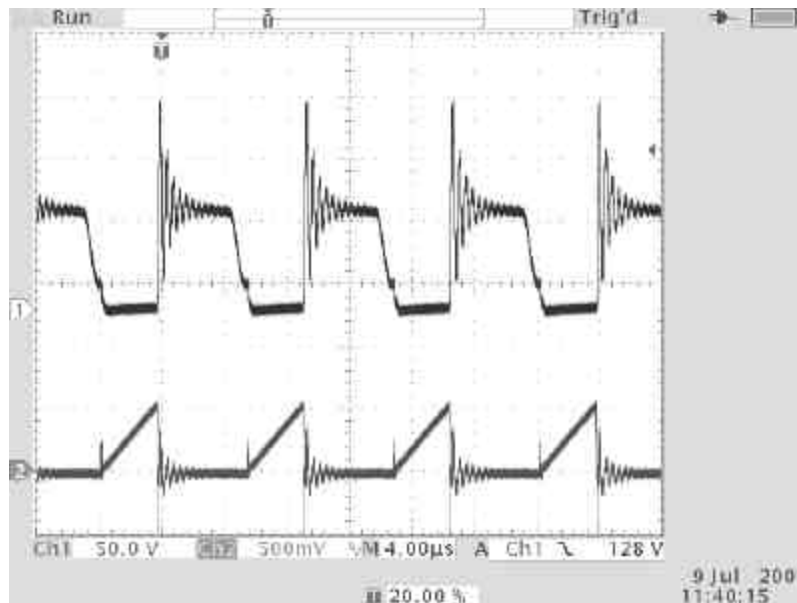

Fig 4) Drain (D) voltage of IRIS4007K (CH1) and the source(S) pin voltage (CH2) at 48VDC in/Full load output
Fig 4) shows the waveforms for a 48V input and full load output, but this time it show the Source (S) pin voltage with the drain voltage showing the effect of the primary current ramp, which is seen as a voltage generated across the current sense resistor R10. Note that this waveform shows some noise on the source pin voltage which is smoothed out by the RC filter comprising R9 and C12. The initial voltage spike at the start of the ramp is a result of discharging the quasi-resonant capacitor C5 and the primary winding capacitance of the transformer.